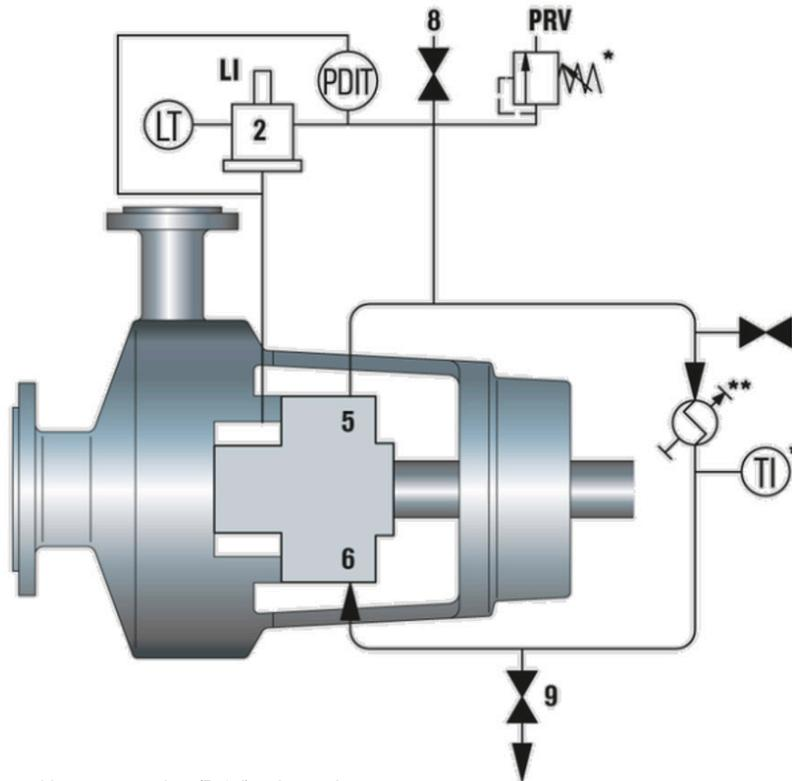

Figure 2 – Plan 53C piping and instrumentation (P & I) schematic
In a Piping Plan 53C, there is an external barrier fluid system pressurized by a piston accumulator supplying clean liquid to the barrier fluid seal chamber. The barrier liquid is maintained at a pressure greater than seal chamber pressure. The piping and instrumentation diagram (P&ID) is shown in figure 2. The Piston Accumulator is item 2. Items with key (*) are optional (if specified).